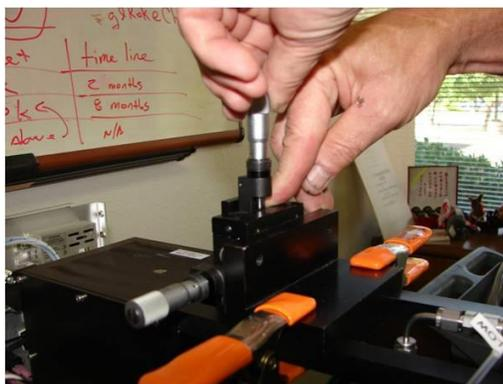

Figure 13: Application of extra force to assist stage springs
- 3.24. With the sample pump and laser both running, make adjustments to the position of the mode aperture block. While making these adjustments, monitor the YAG laser power to maximize the YAG power reading. The springs in the mode aperture tool usually do not apply sufficient restoring force to move the holder when the screw is backed out. Finger pressure opposite the direction of the screw is recommended, as depicted in Figure 13.